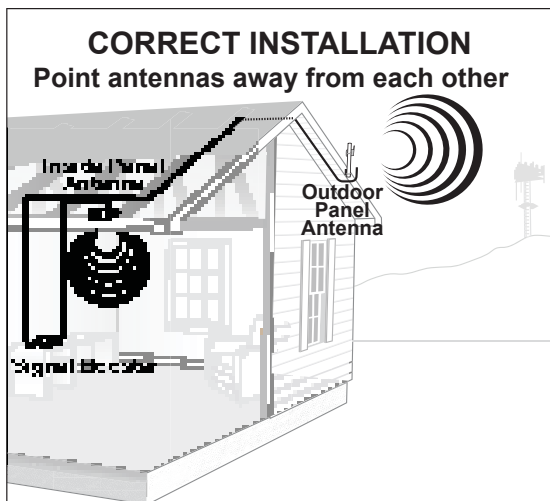

Figure 1
1. Never point the front of a directional Outside Antenna toward the Inside Antenna. See Figures 1 & 2 above.